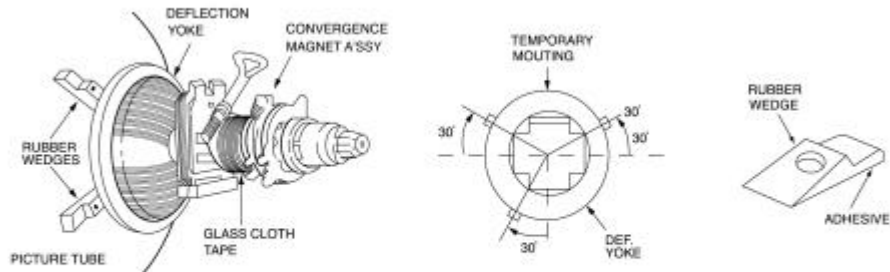

FIG. 2 Rubber Wedges Location
Convergence magnet assembly and rubber wedges need mechanical positioning following figure 2.
9. Stick 3 adhesive tapes on wedges as shown in figure 2.